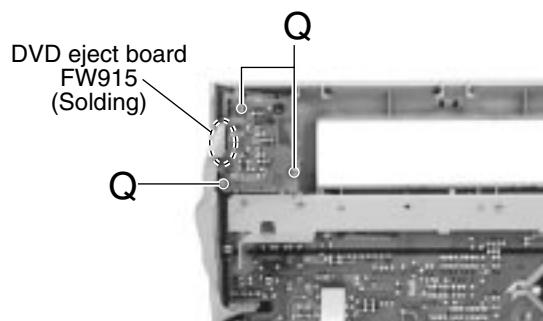

Fig.35
■ Removing the CD eject board (See Fig.35)